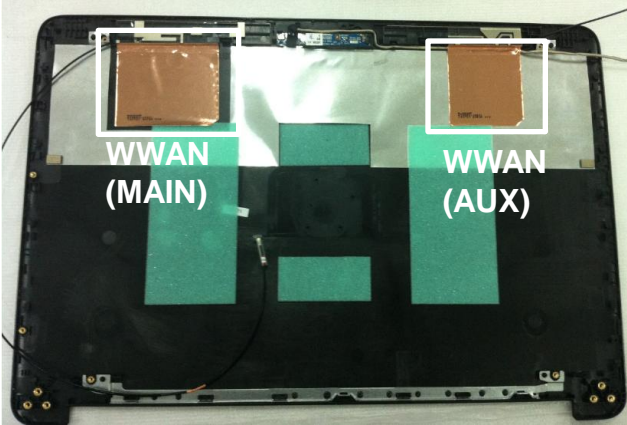

Fig.1
1. Rip the WWAN AL foil, disassembly WWAN antenna(Fig.1) and recycle it .